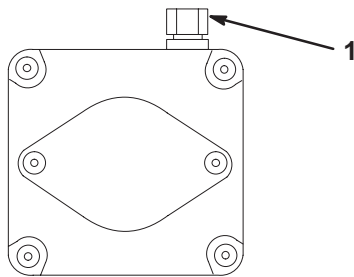

Figure 23
2. Rotate the by-pass valves counterclockwise 1 turn to push. This allows hydraulic fluid to by-pass the pump enabling the wheels to turn (Fig. 23).
Turn the by-pass valves in to operate (Fig. 23).